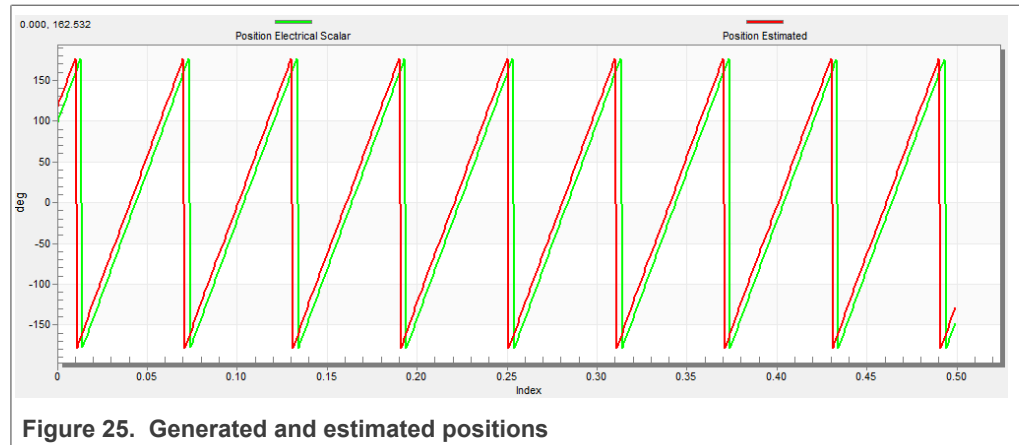

Figure 25. Generated and estimated positions
6. Select the “Position” recorder to check the observer functionality. The difference between the “Position Electrical Scalar” and the “Position Estimated” should be minimal (see Figure 25) for the Back-EMF position and speed observer to work properly. The position difference depends on the motor load. The higher the load, the bigger the difference between the positions due to the load angle.